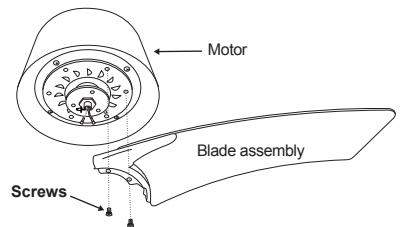

Figure 14
Step 4. Tighten the blade assemblies onto bottom motor by using two screws previously removed from the motor.(Figure 14)